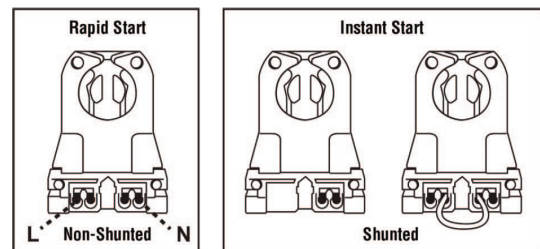

Figure 1. - Non-shunted & Shunted Lamp Holder
6. Ensure that the fixture contains non-shunted G13 bi-pin lamp holders (**Figure 1**). If socket lamp holders are internally shunted, then replace with new non-shunted socket lamp holders. If socket lamp holders are shunted with a jumper wire, remove wire to convert into non-shunted sockets.